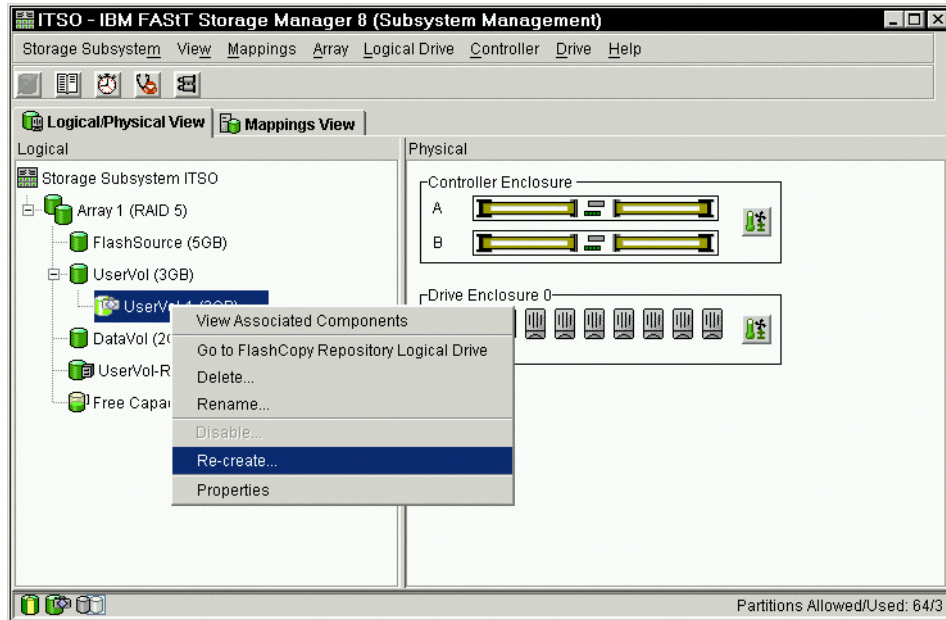

Figure 5-30 Recreating a FlashCopy
1. Select the FlashCopy logical drive. Right-click and select **Re-Create**, as shown in Figure 5-30.